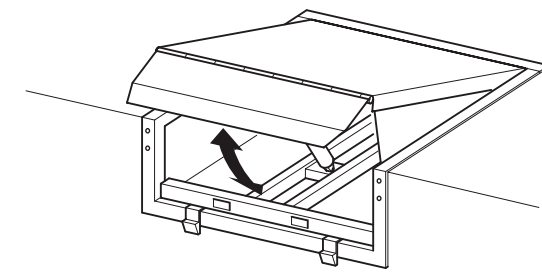

FIGURE 8
8. Set the Upper Deck by letting the platform move up and down three times so it can settle. (See Figure 8)